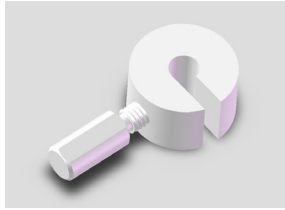

Figure 1: DBS Lead Stop
4. Assemble the Lead Stop (Figure 1) by partially screwing the threaded portion of the screw into the threaded hole in the Ring.